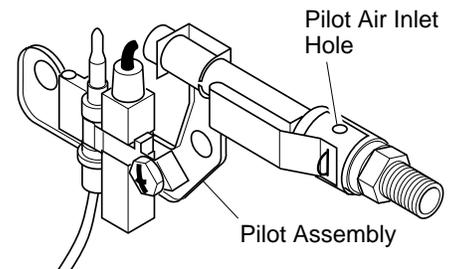

**Figure 28 - Injector Holder On Outlet Burner Tube**
2. Inspect burner, pilot, and primary air inlet holes on injector holder for dust and dirt (see Figure 28).